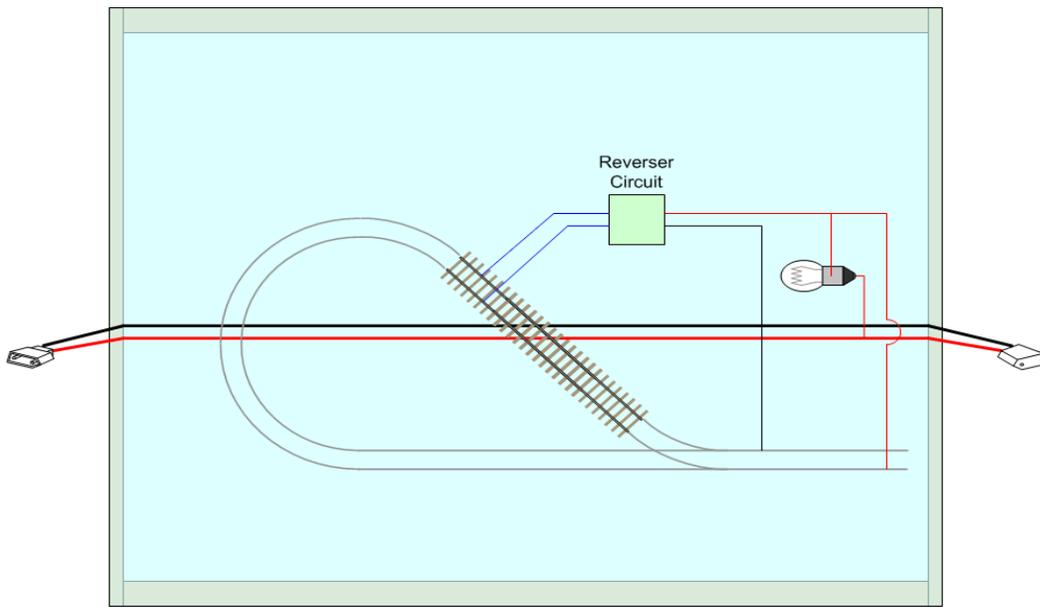

Figure 6
- Any module with a reverse loop must have an isolated section of the loop wired through a reverse loop circuit (or equivalent, see Figure 6).